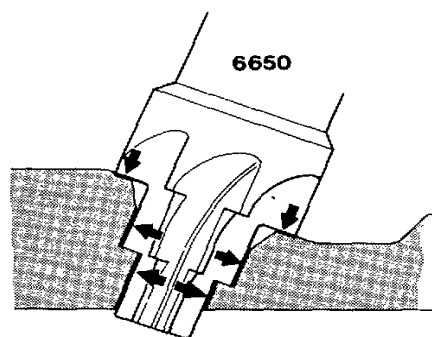

Fig. 156. Cutting the seat for the copper sleeve (step 2).
2. Then clean with cutting tool 6650 until the tool bottoms against the surface under the cone and stops cutting. The tool cuts where the arrows point, fig. 156.